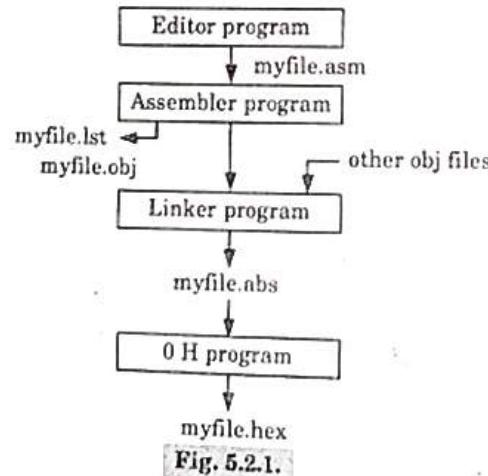

Fig. 5.2.1.
1. The steps that illustrate how an assembly language program is created, assembled and made ready to run is given in the Fig. 5.2.1.